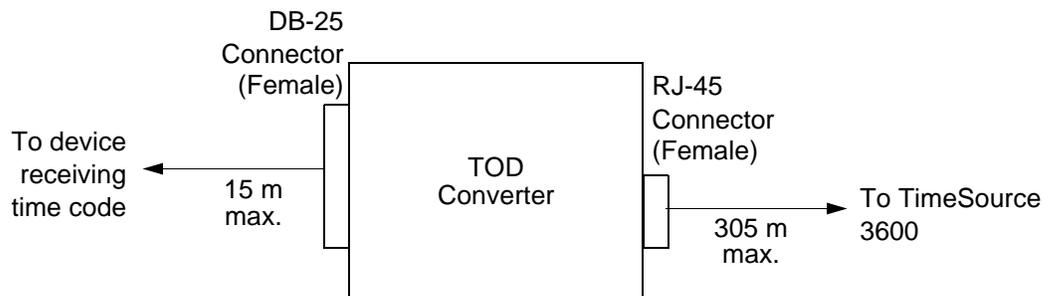

Figure 3-25 RS-422-to-RS-232 TOD Converter Connections
3.	Install a user-supplied Category 5 four-pair RS-422 cable, with RJ-45 connectors on each end, between the TimeSource 3600 Shelf and the converter (see Figure 3-25).
4.	Install a user-supplied RS-232 cable, with DB-25 connectors on each end, between the converter and the device receiving the time code (see Figure 3-25). See Table 3-2 for the DB-25 connector pinouts.